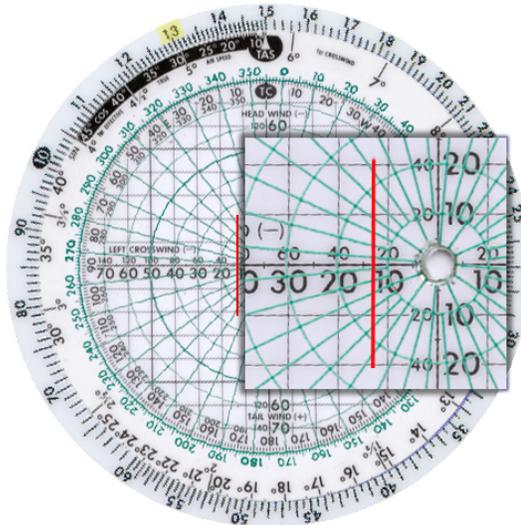

Figure 4.6-8 In-Flight Wind Calculation 5
5. Choose a scale and draw a vertical line representing the crosswind component (As per the estimate, to the left, because of the right drift) (Figures 4.6-8).
9. The magnitude is determined by using the same scale from steps 5 & 6, in this case 17 kts. (Figure 4.6-8, 4.6-9)